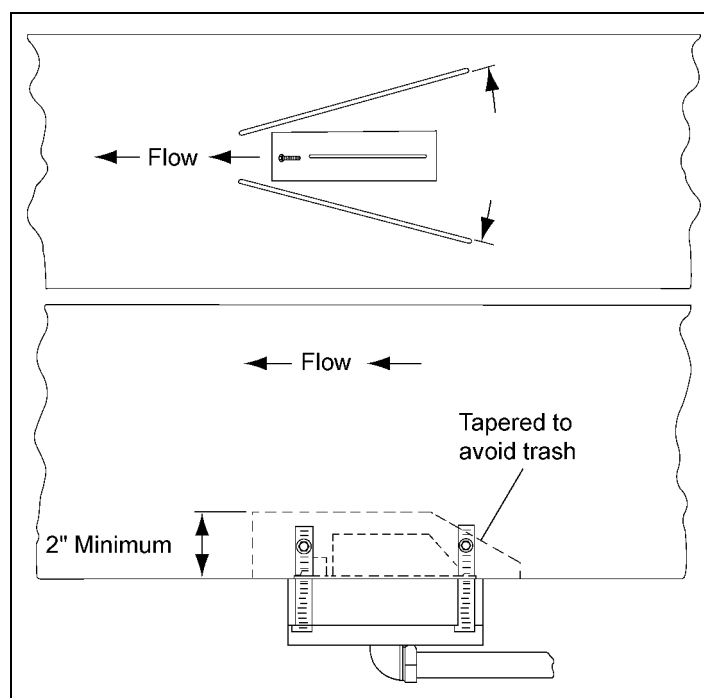

Figure 3J Side View
3. Attach a pair of angled brackets as shown in Figure 3J.
4	Discharge Chute, Refer to Figure 3J .